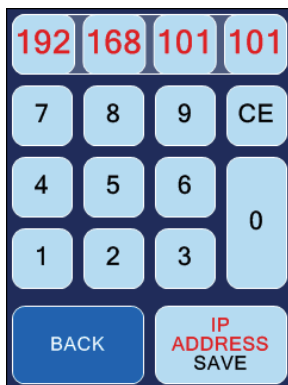

Fig. 13 Screen to adjust the IP-address and Subnet mask
you can type in the IP-address and the subnet mask in the following screen (Fig. 13). Ask your network administrator if necessary.
- Press **CE** and type in the address. Save the address with **IP ADDRESS SAVE** respectively **SUBNET MASK SAVE** (Fig. 13, line 5), press **BACK** to get to the previous screen without saving the values.